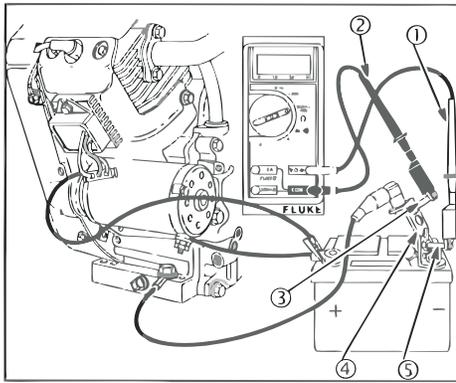

Figure 41
The DC Shunt MUST be installed on the NEGATIVE (-) terminal of the battery, (Figure 41) to avoid blowing the fuse in the meter when testing the output of the 20 amp system. All connections must be clean and tight for correct readings.
2. Install DC Shunt (4) on NEGATIVE battery terminal.
3. Insert RED test lead into $V\Omega$ receptacle in meter and connect to RED post terminal on shunt (5), Figure 41.